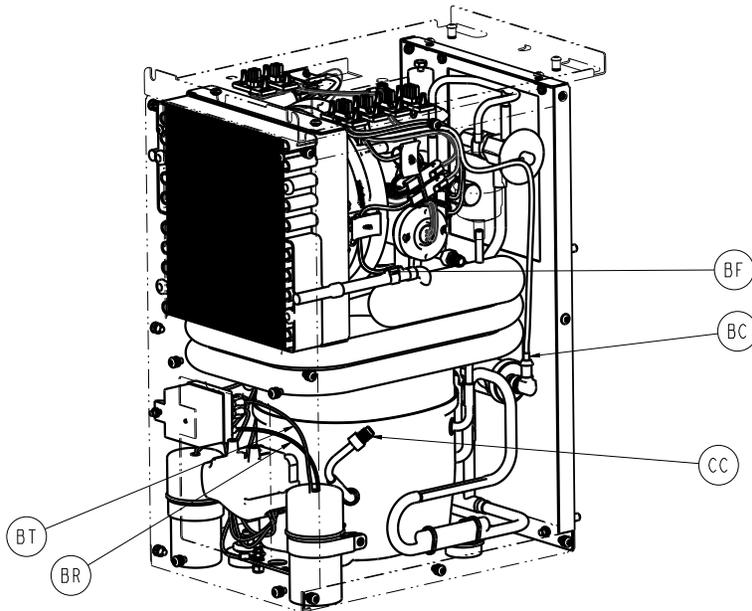

Figure 25 – Refrigeration temperature probe
4. Using a utility knife, remove and discard the insulation and tape around the refrigeration temperature probe (BF) (Figure 25).